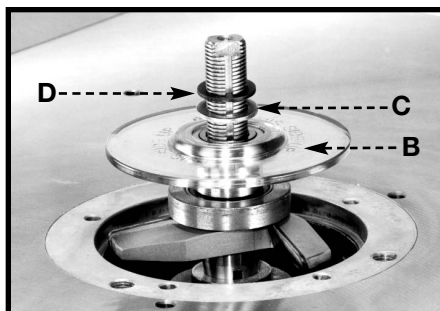
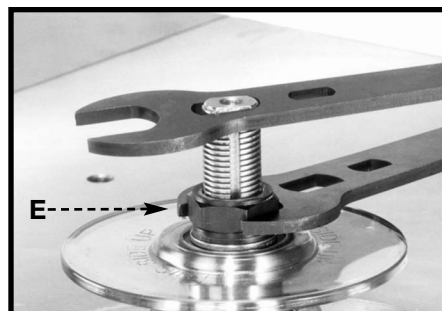

Fig. 17
Fig. 18
2. Place the spindle guard (B) Fig. 17 on the spindle. Install the other washer (C) and the "keyed" washer (D) on the spindle.
3. Thread the spindle nut (E) Fig. 18 on the spindle. Place one wrench on the flats at the top of the spindle and one wrench on spindle nut (E) and tighten.
4. **IMPORTANT:** Always place the "keyed" washer (D) Fig. 17, on the spindle before screwing on the spindle nut (E) Fig. 18. The "keyed" washer (D) Fig.17 prevents the spindle nut (E) Fig. 18 from loosening when the spindle turns counterclockwise.